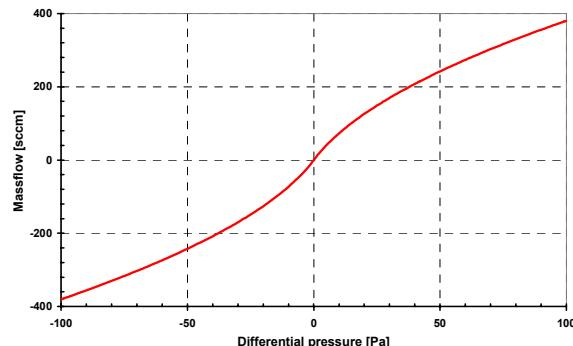

Figure 4: Differential Pressure vs. Mass Flow of ASP1400 device.
(1) Contact us for other gases
(2) Due to dynamic measurement principle (see Figure 4)
(3) 1 ln/min = 1 norm liter per minute = 1 liter/min at 0°C and p = 1013.25 mbar
(4) Error = % of full scale (FS) or % of measured value, whichever is bigger.
(5) Accuracy:
The ASP1400 is calibrated for differential pressure measurements. However, there is a well defined relation between pressure drop and mass flow. This relationship is shown in Figure 4. On request the ASP1400 can also be calibrated to measure mass flow instead of differential pressure (for more details refer to the documentation of the SENSIRION Mass Flow Meter ASF1400).